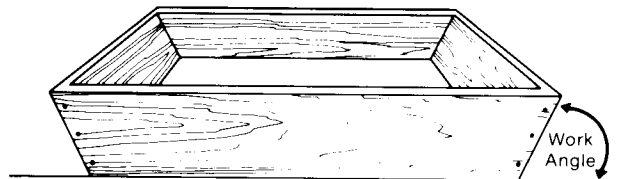

Figure 45
*See figure 45 for explanation of work angle.